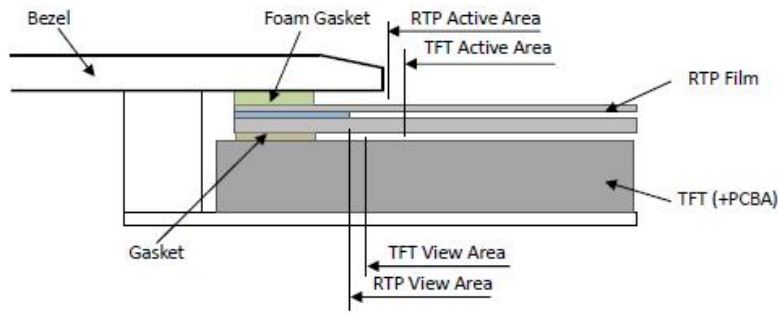

Figure 5
- In general design, RTP V.A. should be bigger than the TFT V.A. and RTP A.A. should be bigger than the TFT A.A. (Figure 5)
RTP 的可视区 V.A. 应不小于 TFT 的可视区 V.A. 及 RTP 的动作区 A.A. 应不小于 TFT 的动作区 A.A. (附图 5)